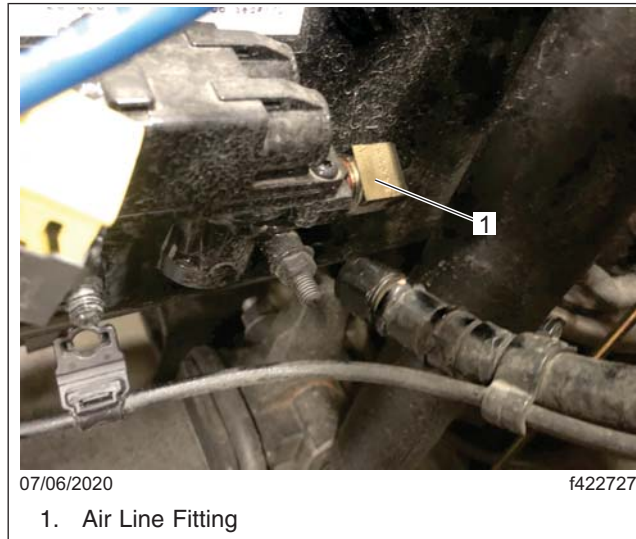

Fig. 9, Loosening the Brake Chamber Air Line Fitting
7. Use a 23-mm wrench to loosen the brake chamber air line fitting on the modulator valve. See **Fig. 9**.